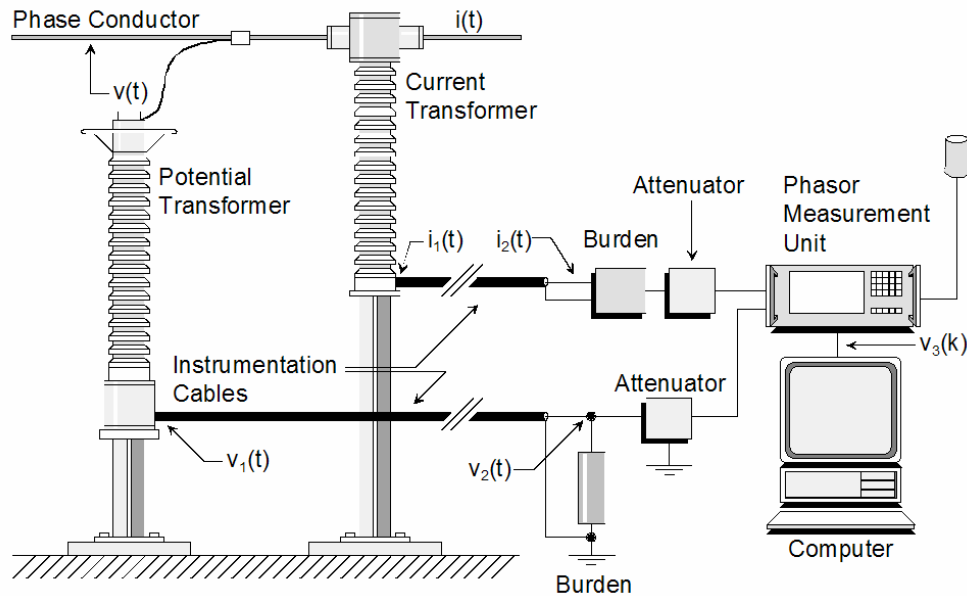

Figure 10: Typical PMU Installation at a Substation
Typically an electrical engineer designs the installation and interconnection of a PMU at a substation or at a generation plant. Substation personnel will bolt equipment rack to the floor of the substation following established seismic mounting requirements. Then the PMU along with a modem and other support equipment will be mounted on the equipment rack. They will also install the Global Positioning Satellite (GPS) antenna on the roof of the substation per manufacturer instructions. The antenna signal cable will be connected to the antenna and brought directly to the PMU. Substation personnel will also install “shunts” in all Current Transformer (CT) secondary circuits that are to be measured. Potential Transformer (PT) connections will not require the installation of any additional equipment other than terminal blocks and fuses. They will have to run wires from the CT shunts and the PTs to either an interface cabinet or directly to the input connections of the PMU (Figure 10). Note: Each phasor (either Voltage or Current) will require three connections – one for each phase.